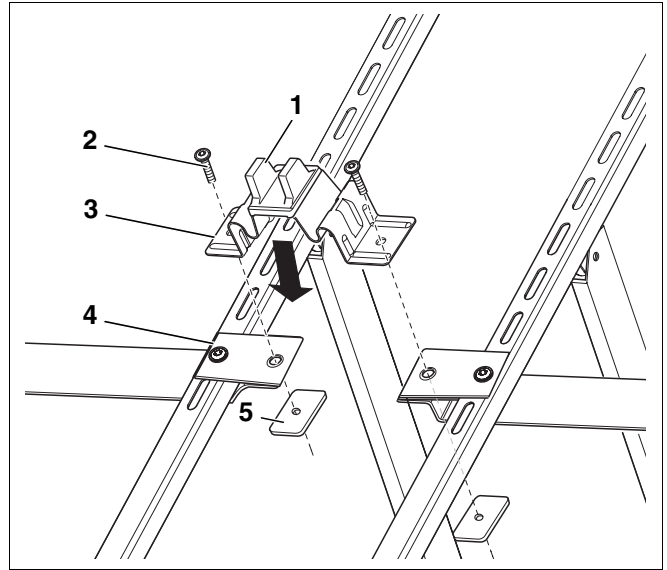
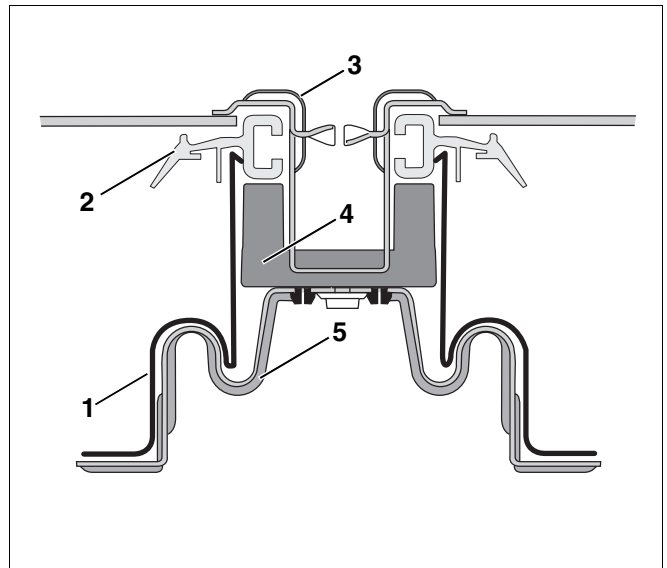

Fig. 27 Installation of the collector holder bridge
Fig. 28 Diagram of inserted collector clips with double clips
- Locate the collector holder link centrally (Fig. 27) onto the ends of the auxiliary straps.
- Secure the collector holder links (Fig. 27, **Item 3**) to the auxiliary straps (Fig. 27, **Item 4**) using the threaded plates (Fig. 27, **Item 5**) and pan-head screws M8 × 16 (Fig. 27, **Item 2**).
Please ensure, that the high webs of the rotating spacer block (Fig. 27, **Item 1**) for supporting the frame (Fig. 28, **Item 2**) are positioned parallel to the profile rails of the collector supports.